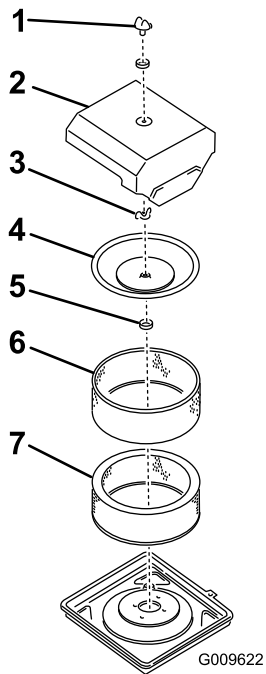

Figure 31
1. Remove the knob, O-ring, and air-cleaner cover (Figure 31).
4. Install the element with the pre-cleaner, breather seal, inner cover, wing nut, air cleaner cover, O-ring, and knob (Figure 31).